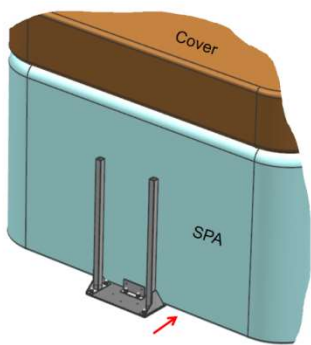
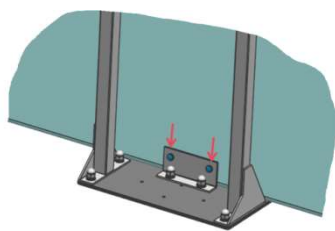

Fig.10
Fig.11
Step 5: Move assembled rack close to the SPA. Insert the Base Plate Into the underside center of SPA.(Fig.10),ensure the Limit Plate touch the SPA. Fix 2xSt4.8x40 S/S self-taping screws and cover two screw caps.(Fig.11)